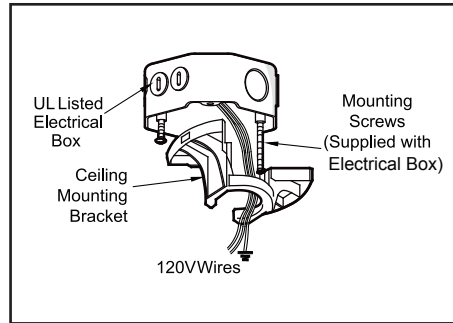

Figure 8
1. Pass the 120-volt supply wires through the center hole in the ceiling mounting bracket as shown in Figure 8.
2. Install the ceiling mounting bracket on the outlet box by sliding the mounting bracket over the two screws provided with the outlet box. If necessary, use leveling washers (not included) between the mounting bracket and the outlet box. Note that the flat side of the mounting bracket is toward the outlet box. (Figure 8)